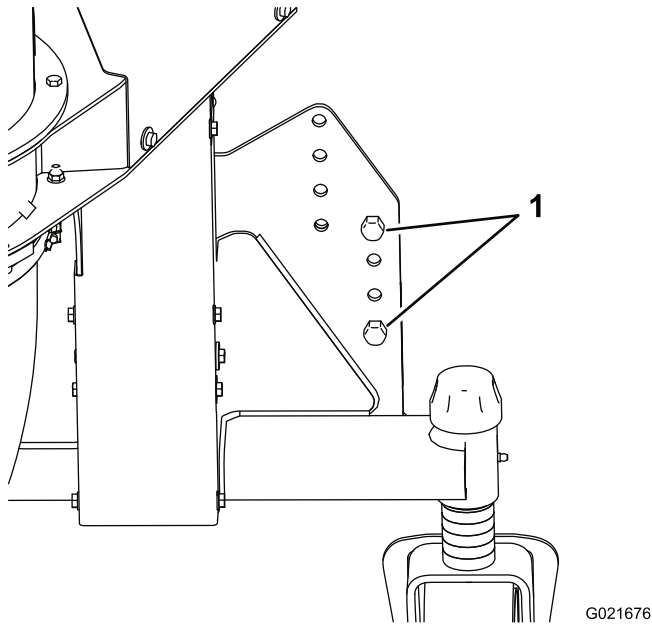

Figure 7
7. Carefully remove the screws holding the blower to the wood pallet. After the screws are removed, slide the crate away from the blower and lower the blower until the castor wheels touch the floor but the strap is still tight (Figure 7).